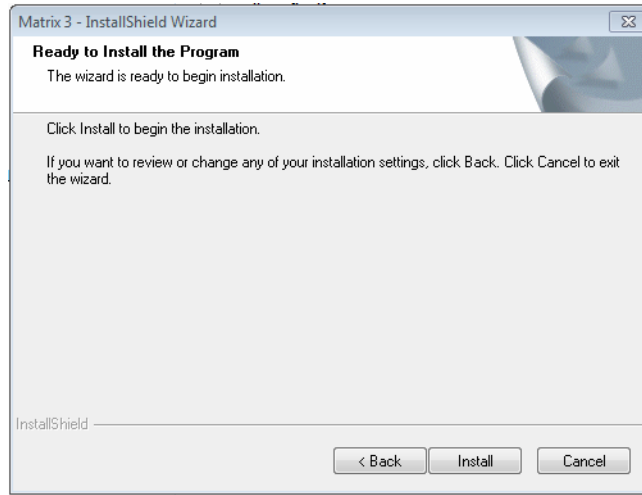

FIG. 20
10. Click INSTALL. The InstallShield Wizard for Matrix3 begins the installation (FIG. 20).